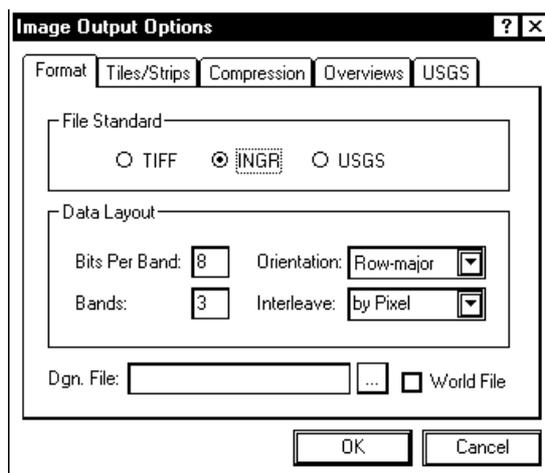

Figure 10: OrthoPro Output Options.
- **Defining Image Output Properties** - Use the options to define image output parameters for the products you create with OrthoPro Mosaic (Figure 10).